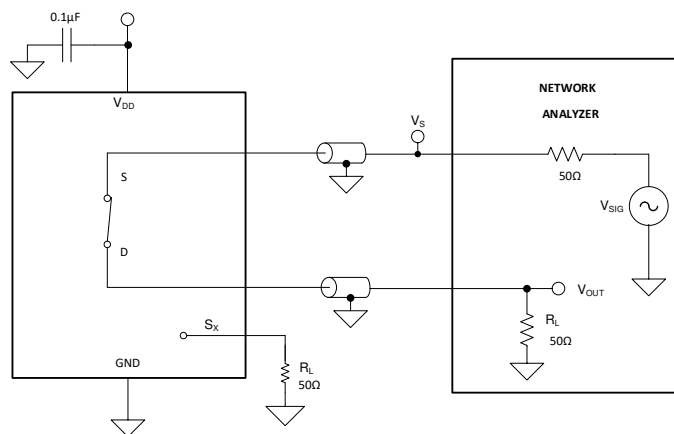

Figure 8-10. Bandwidth Measurement Setup
Bandwidth is defined as the range of frequencies that are attenuated by less than 3 dB when the input is applied to the source pin (S_x) of an on-channel, and the output is measured at the drain pin (D) of the device. **Figure 8-10** shows the setup used to measure bandwidth.